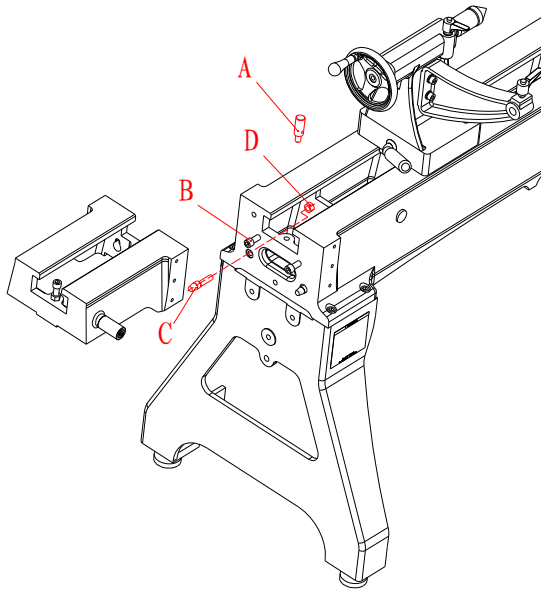

Fig.9
- 1, With an assistant, attach the extension bed to lathe bed right end with two head cap bolts B. Slightly tighten the bolts. These two bolts must be taken off as soon as swing away system assembly is completed (Fig.9)
- 6, Put the two eccentric pivot pins in lathe bed, turn the pins until it slightly touch extension bed bottom. Secure pivot pins with nuts D (Fig.9)